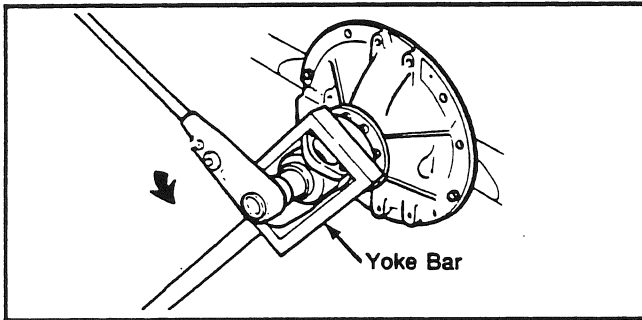

Fig. 18
1. Fasten a yoke bar to the input yoke (see Fig. 18). The bar holds the drive pinion in position when you remove the nut. Remove the nut from the drive pinion. Remove the yoke bar. Remove the yoke